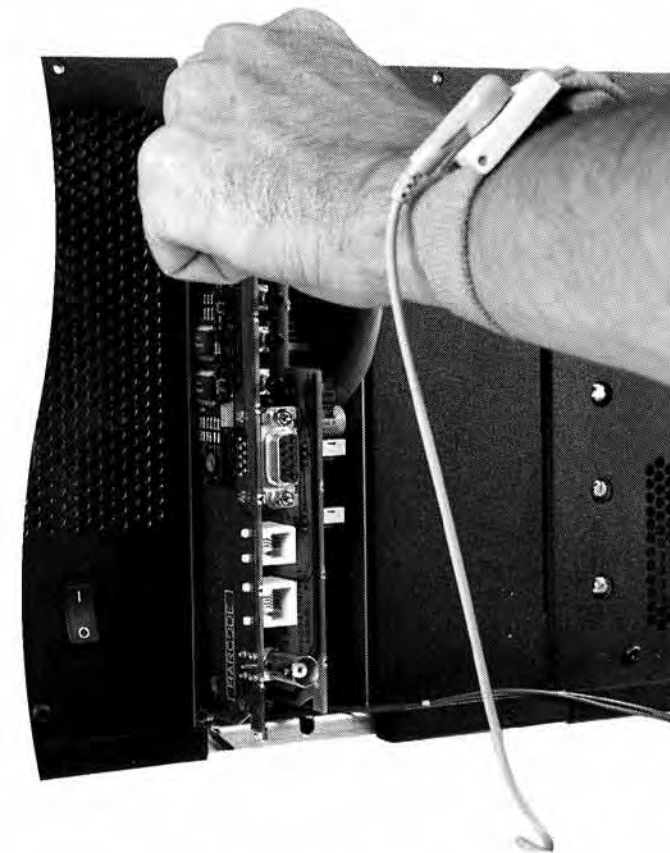

Figure 6. Removal Procedure for Station Control Board (Quantar VHF Station Shown)
- Step 3.** Using a Torx #15 driver, remove front panel and Station Control Board as described in Figure 6.
- Step 5.** Using a Torx #15 driver, remove front panel and Station Control Board as described in Figure 6.
- Step 3.** Remove Station Control Module front panel and Wireline Interface Board as described in Figure 6.